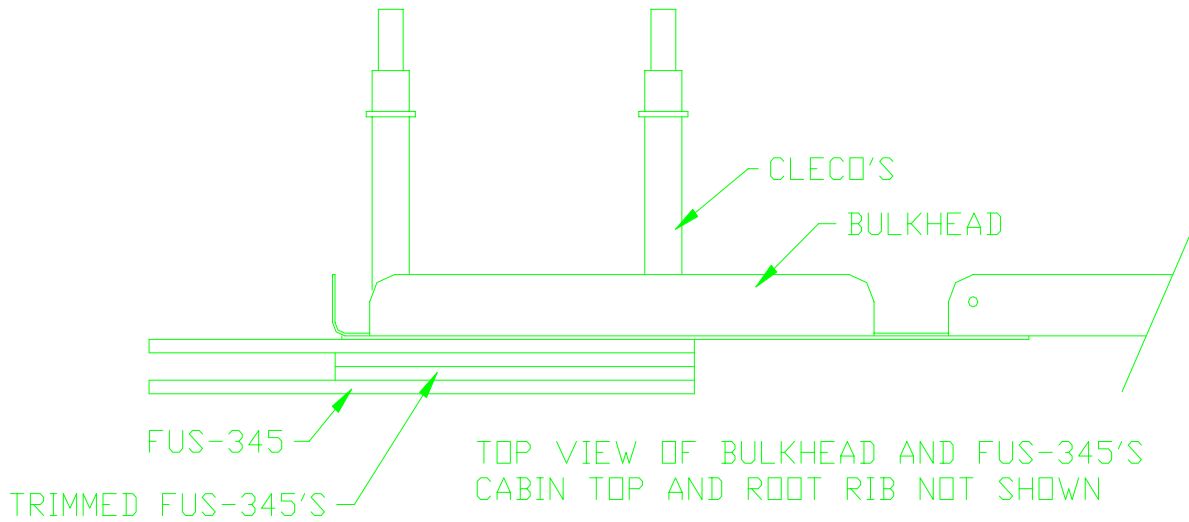

FIGURE 5
27) Cleco the two trimmed FUS-345 brackets and one untrimmed FUS-345 to the one on the bulkhead Figure 5.